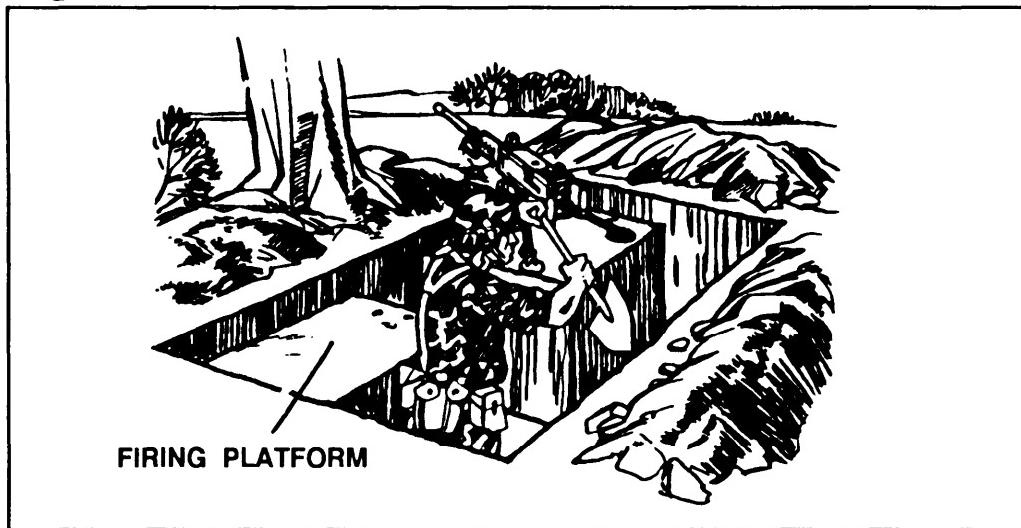

Figure D-3. Digging the fighting position.
- c. The crew digging the hole uses the dug-up dirt to build up the cover – first for frontal cover and then for flank and rear cover. They dig the hole deep enough to protect the crew and still let the gunner shoot with comfort (usually about armpit deep) (Figure D-3). They fix the tripod legs in place by digging, sandbagging, or staking them down. This will ensure that the gun does not shift during firing, which would render the range card data useless.